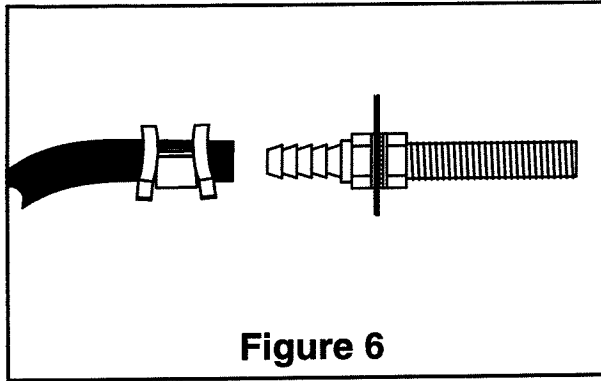

Figure 6
- K. Slide air line clamp over the air line. Push air line onto fitting covering all barbs, with pliers slide the air line clamp forward until it fully covers the barbed section (Figure 6)
I. Slide clamp onto the air line and push the air line over the fitting, covering all the barbs. With pliers slide the air line clamp forward until it fully covers the barbed section (Figure 6).